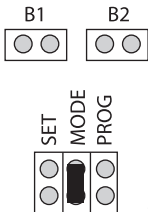

Fig. No 22
5. Set the jumper on MODE pins. See Fig. No. 22 for correct jumper position.